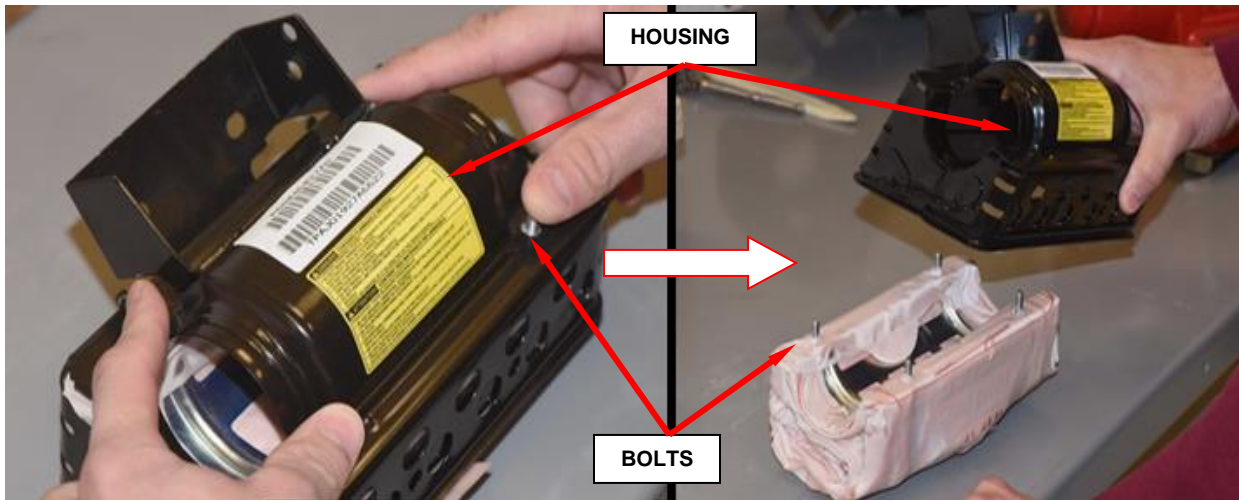

Figure 58 - Remove Airbag Cushion from Housing
- h. Remove airbag cushion from housing by applying pressure to the bolts, set cushion aside (Figure 58).